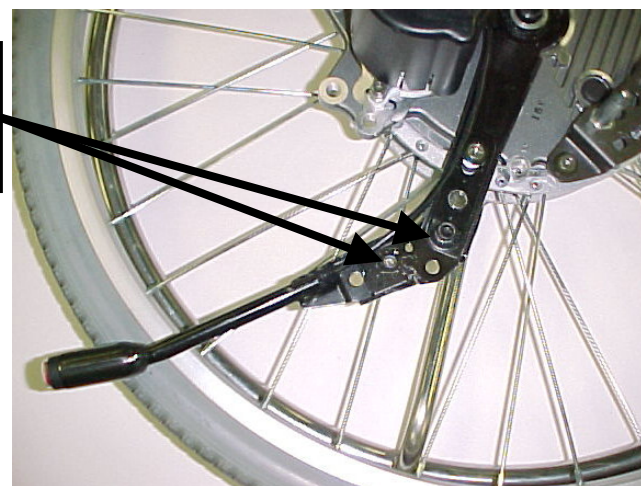

Figure 5: On/Off Switch w/ 45° Bracket
2. Next, lay the Xtender Unit flat on the table and using the 4mm Allen Wrench remove the Allen's used to attach the switch to the Xtender unit as shown in Figure 4. (Note: some older model Xtenders may have a 45° bracket that is attached to the switch, this also needs to be removed. The 45° bracket can be seen in Figure 5.)